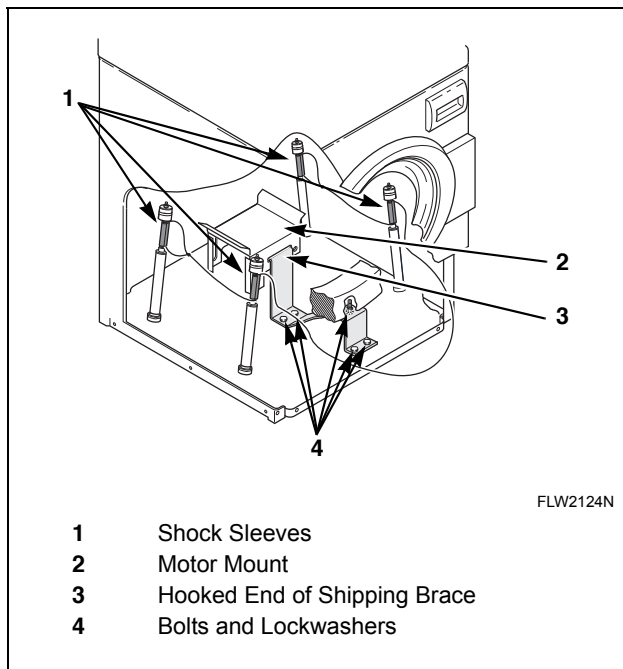

Figure 66
- Place the shock sleeves on all four shock absorbers. Refer to *Figure 66*.